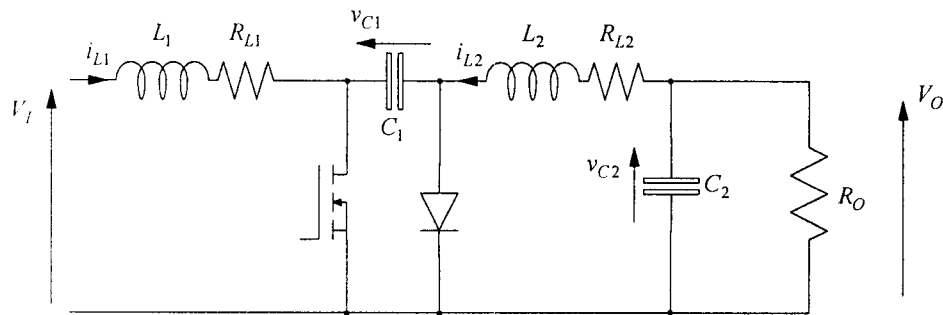

Figure 5.1
- (a) Derive an expression for the output voltage to input voltage ratio of a Ćuk switch-mode power supply (SMPS), shown in figure 5.1, and state any assumptions made. [5]